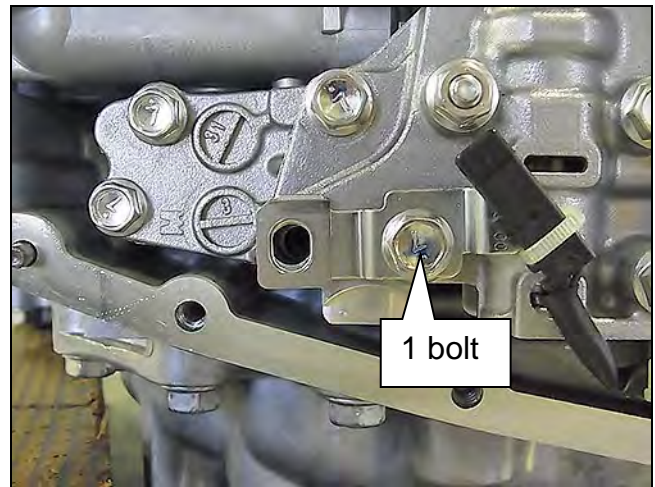

Figure 8D
8. Install the CVT fluid temperature sensor bracket to the valve body with one (1) bolt (Figure 8D).